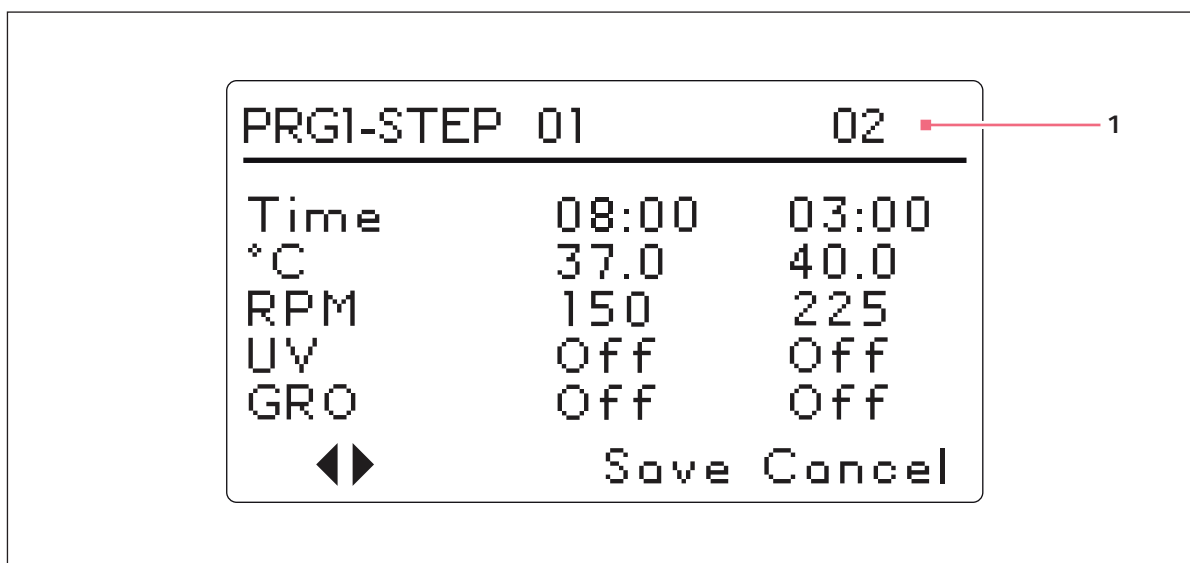

Fig. 5-13: Program 1, Step 2
- To set the temperature desired (°C from 4.0 to 80.0) for the time period you have set, turn the Control Knob (left to decrease, right to increase). When the desired value appears, click the Control Knob in to save the setting. We will set Step 1 temperature to **37.0 °C** (see Fig. 5-13 on p. 54).
8. Turn the Control Knob to select the desired shaking speed (25 rpm – 400 rpm) for this time period, then click the Control Knob in to save the setting. We will set Step 1 speed to 150 rpm (see Fig. 5-13 on p. 54).
9. To program Step 2 (see Fig. 5-13 on p. 54): use the Control Knob to highlight the arrows at the bottom left of the screen. Click the Control Knob to make the arrows flash, then turn the Control Knob to the right until Step 2 appears. Click the Control Knob in to work in this screen, and repeat Steps 3-10.